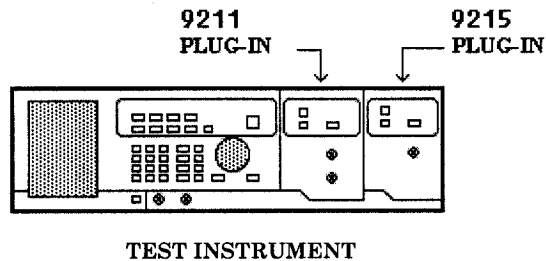

Figure 1. Test instrument configuration.
- a. Configure TI as shown in figure 1.